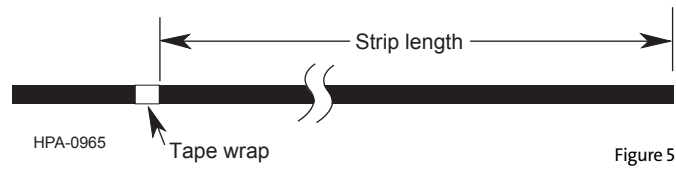

Figure 5
Step 1B: Determine the proper sheath removal length for the hardware being used. Mark a point at this distance from the end of the cable with a wrap of tape (Figure 5).